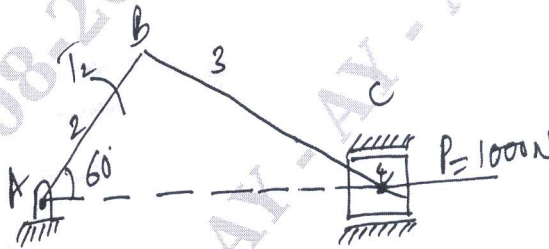

Fig Q1(b)
b. A slide crank mechanism as shown in Fig Q1(b). The force applied to the piston is 1000N when the crank is at 60° from IDC. Calculate the driving torque T_2 .